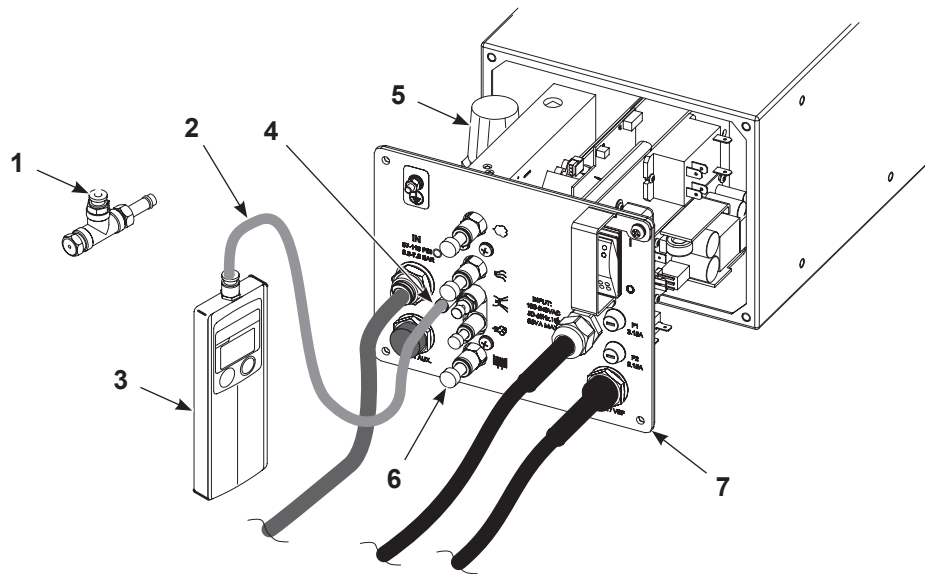

Figure 6-13 Regulator Adjustment
1. See Figure 6-13. Pull the sub-panel (7) far enough out of the power unit cabinet to access the regulator.
2. Disconnect the 4-mm electrode air wash tubing from the power unit. Disconnect the flow, atomizing, purge, and fluidizing air tubing and plug the fittings with 8-mm and 6-mm plugs (6).
3. Unplug the 4-mm manometer air tubing (2) from the orifice assembly (1) and plug the tubing to the electrode air wash fitting (4).
6. Pull out the regulator knob (5) and adjust it to slightly more than 85 psi (5.86 bar). The manometer reading should occasionally bounce higher, but never fall below 85.